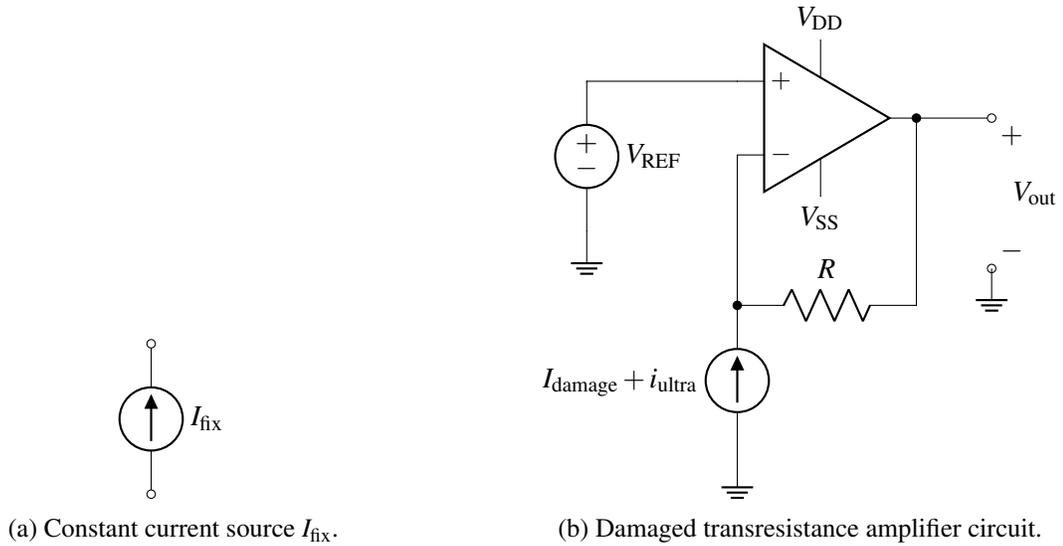

Figure 3: Circuits detailing the transresistance amplifier design, including the background signal I_{damage} .
- (c) (5 points) Unfortunately, after a few hours of successful ultrasound sensing, our sensor got damaged. It now constantly generates a huge background current, I_{damage} . So when an ultrasonic wave hits it, the sensor produces $I_{\text{damage}} + i_{\text{ultra}}$, as shown in Fig 3(b). When no ultrasonic wave hits it, the sensor produces just I_{damage} . However, the huge background current causes our output to constantly be $V_{\text{out}} = V_{\text{SS}}$, so we are not able to tell whether an ultrasonic wave is present or not.
We would like to fix this in our circuit by canceling the background current and retaining only the useful signal. For this purpose we are going to use a current source, I_{fix} , shown in Fig. 3(a), whose value we can choose. **How would you connect this current source in your circuit and what value would you pick for it?** Redraw the entire circuit with the new current source, I_{fix} , added and give the value of I_{fix} in terms of I_{damage} , i_{ultra} , R , V_{REF} . **Explain how your design works.**